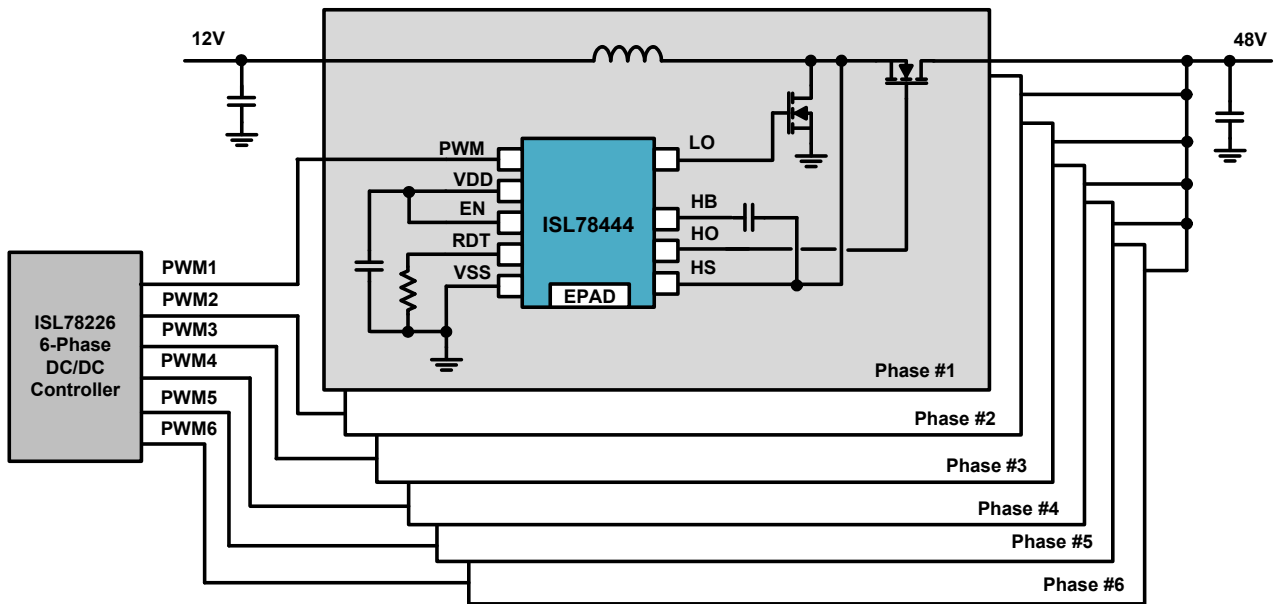

Figure 1. ISL78444 Typical Application Block Diagram
- (1) The programmable dead time of the HO and LO signal is set to 110ns with a 10k $\Omega$  resistor from the RDT pin to GND (note the ISL78444 also has an inherent adaptive dead time). To change the dead time, replace the resistor at R10 with the value corresponding to the desired dead time. See Figure 1.
- (2) Ensure that the enable switch (SW1) is set to the off position.
- (3) Connect a power supply capable of 48V and 10A to VBAT\_48V terminals {J19(+) and J20(-)}. Turn on supply to 48V.
- (4) Connect 8V to 18V supply to VDD terminals on board {J2(+) and J3(-)}. Turn on supply to 12V.
- (5) Connect a 0V to 5V (PWM pin capable of voltage up to VDD) <500kHz square wave signal to PWM BNC connector J13.
- (6) Toggle enable switch (SW1) to the on position.
- (7) Verify HO and LO outputs are switching. LO switches between GND and VDD (12V for this example) phase inverted from PWM. HO switches between GND and VHB + VBRIDGE (48V in this example) in phase with PWM.